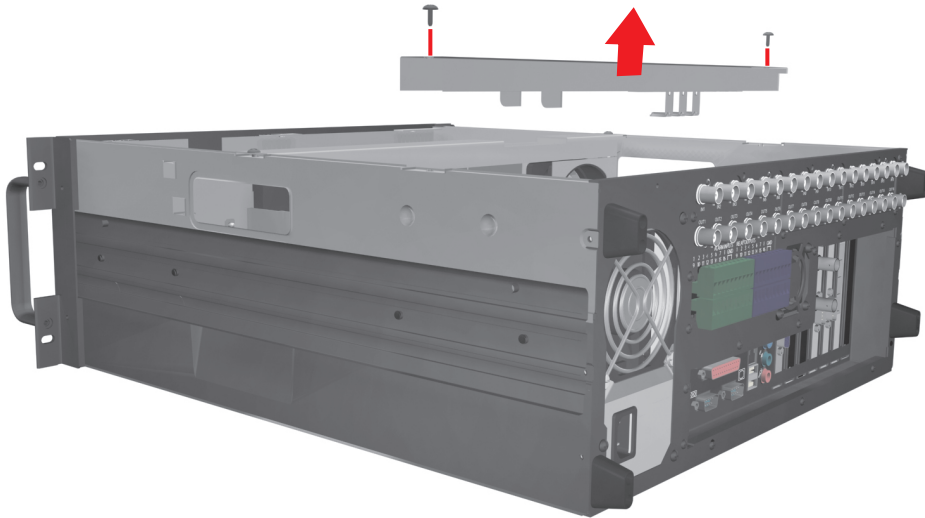

Figure 7. Removing Rear Cross-Brace
1. Using a Phillips-head screwdriver, remove the two flat-head screws that secure the rear cross-brace. Then liftout the cross-brace. Refer to Figure 7.